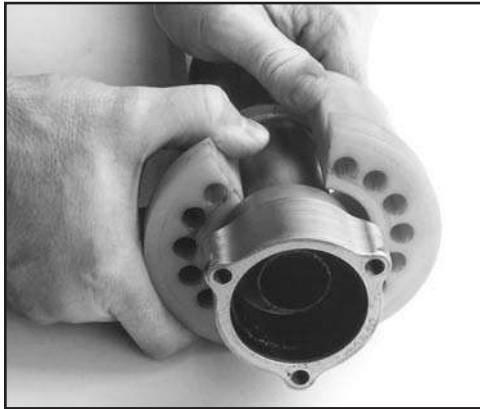

FIG. 59: REMOVE ELASTIC BLOCK
6. Pry open the elastic block and take it off the control stud (see Fig. 59).